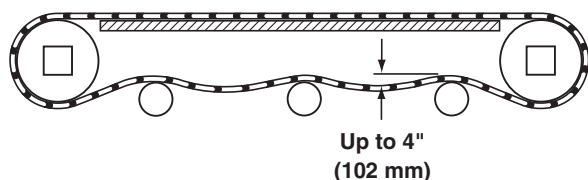

Figure 38
4. Check belt sag by measuring from the top of the return (**Figure 38**). Belt sag should not exceed 4" (102 mm). Follow steps 7 – 9 in the “Belt Installation” section on page 12 to remove slack from the belt.